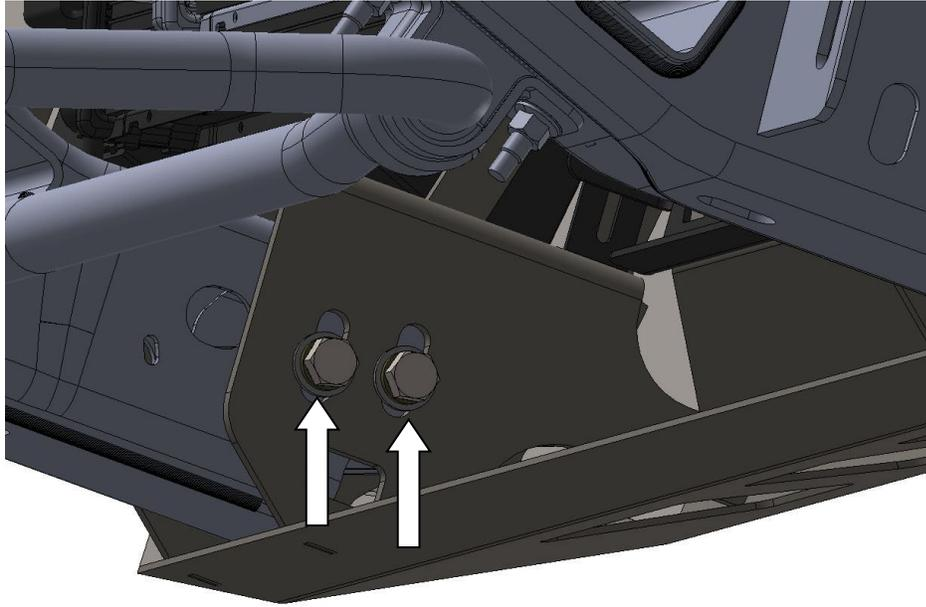

Figure 11
10. With assistance, place the bumper on the truck and use the provided $\frac{1}{2}$ " bolts with flat and lock washers to fasten the bumper to the frame with the already installed nut plates. (50255-HW). (Fig 11)